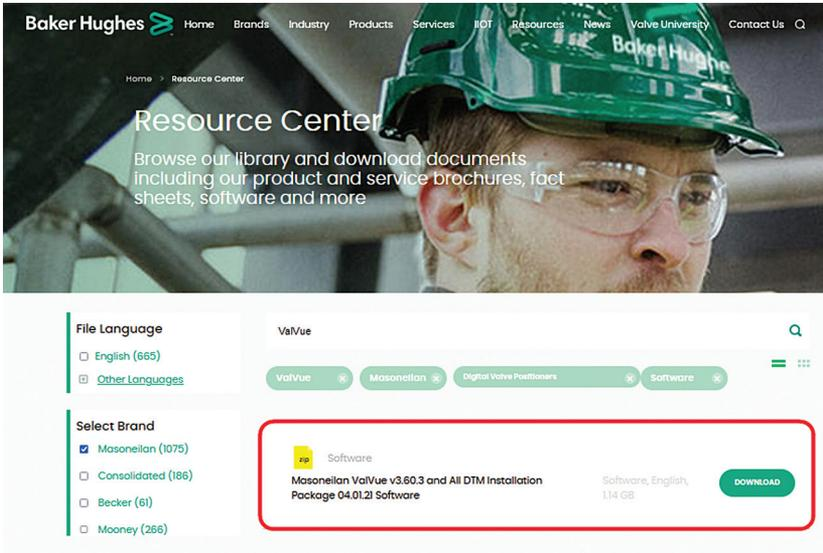

Figure 7 - Download Center: Search for ValVue
1. Go to the Resource Center (<https://valves.bakerhughes.com/resource-center>) and enter ValVue in the search field (arrow in Figure 7).